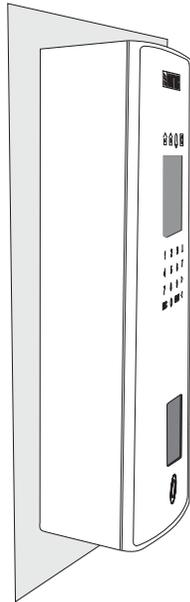

Figure 9
- Tilt the device to allow mounting hook A into slot 1. Straighten the device and then slide it down on the plate (figure 9).